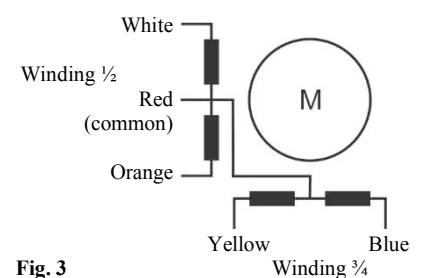

Fig. 3
- Internal resistance between each winding is  $46 \Omega$  for EXM/EXL-125 and  $185 \Omega$  for EXM/EXL-24U. (windings see Fig. 3).